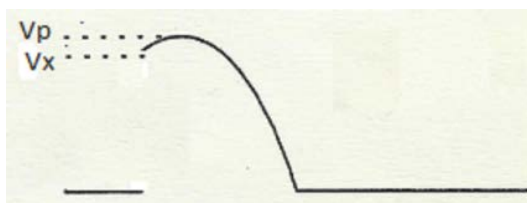

Figure 4. Firing angle waveform
8. Decrease the gate resistance such that the SCR is fired as shown in Figure 4.